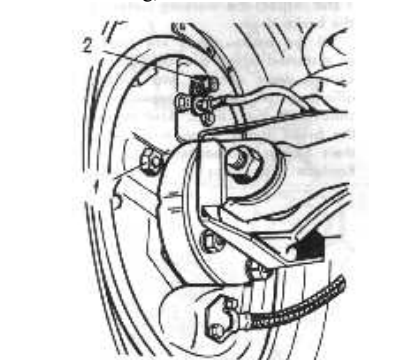

Fig 62. Brake backing plate viewed from rear axle. 1- adjusting eccentric head, 2- rear brake bleeder valve.
- Keeping the shoes pressed to the drums, turn adjusting eccentric heads 1 (Fig. 62) until they contact the shoes; release the brake pedal and turn the heads in the opposite direction through approximately 10°;
2. Remove the protective caps from bleeder valves 3 (Fig. 59) and 2 (Fig. 62) and clean the latter of dirt and dust.